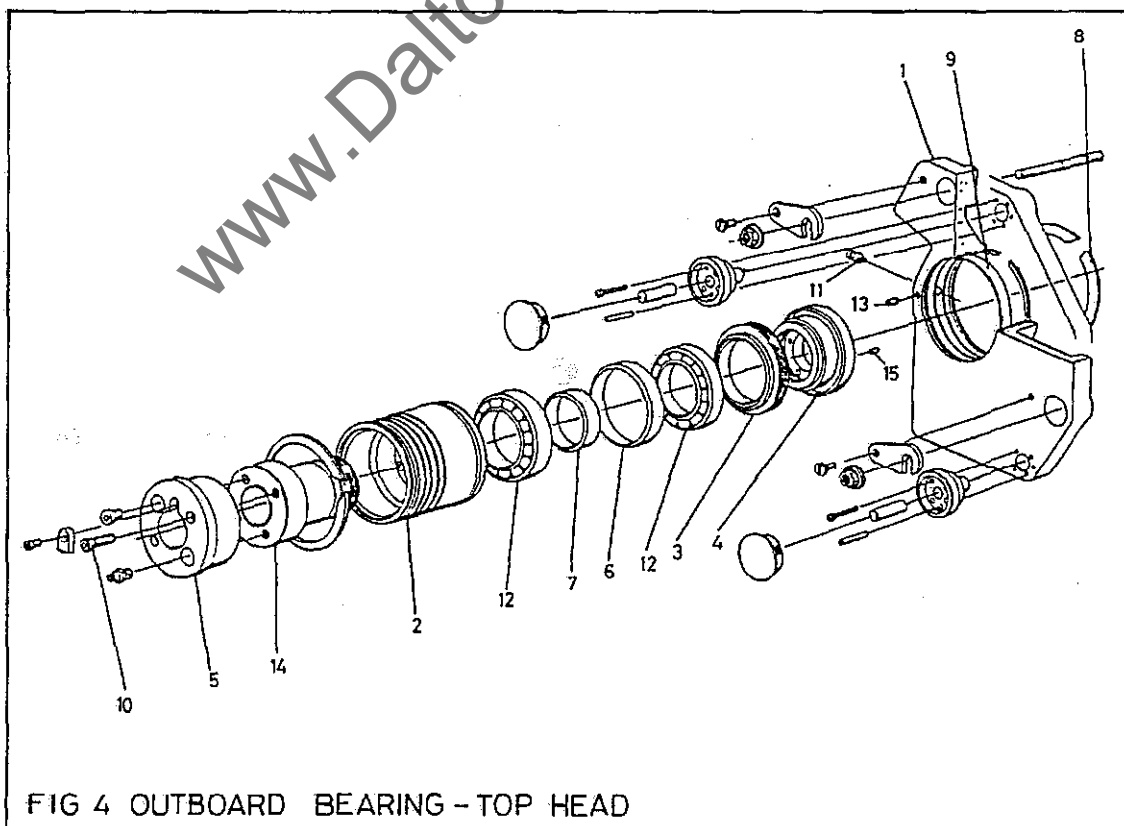

FIG 4 OUTBOARD BEARING - TOP HEAD
**Outboard Bearing Change Top Head (Fig 4)**
**Note:** It is not necessary to remove the housing assembly (2) from the mounting place (1), unless the housing (2) has become damaged. To remove see later note 'Housing Removal'.
- 2) Remove 2 off grubscrew (15). Remove ETP sleeve locknut (4), remove 2 off hexagon socket capscrew (10) which will then allow the ETP end cap (5) to be withdrawn. Remove bearing locknut (3), the ETP sleeve (14) and the bearing assembly can be withdrawn from the rear of the housing (2).
- 3) The bearings (12) can now be removed along with the bearing spacers (6 and 7) using a bearing puller.
**Note:** Care must be taken not to damage the ETP sleeve (14).
- 4) After preparation (see preparation prior to fitting bearings), and lubrication. The new bearings (12) can now be fitted to the ETP sleeve (14) complete with the bearing spacers (6 and 7). Ensure that the bearings (12) are fitted the correct way round. Use only sufficient pressure to fit bearings, applying pressure to the inner ring only. Ensure that the bearing ring fits up to the location shoulder.
- 5) Refit ETP sleeve (14) and bearing assembly into the housing (2) ensuring that the assembly fits right up to the shoulder of the housing (2). Refit bearing locknut (3) ensuring that it is tight. Refit sleeve end cap (5) and sleeve locknut (4) insert grubscrews (15).
**Outboard Bearing Housing Removal (Fig 4)**
- 2) Remove grubscrew (13), remove anti rotation pin (11). Remove the external circlip (8) from the rear of the housing, this will allow the housing assembly to be removed from the front of the machine. Care must be taken not to damage the housing assembly (2) or the mounting plate (1).
- 3) To refit the housing reverse the previous steps. Re-assembly will be aided by smearing the bore of the housing plate (1) with oil.
**Note:** Care must be taken when re-assembly not to damage the tape strip (9) in the housing plate (1).